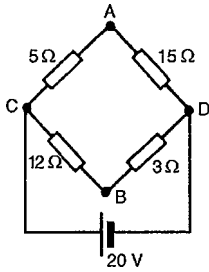

Figure 13.34
- (vii) To find the voltage across AB in Fig. 13.34: Since the 20 V supply is across the 5 Ω and 15 Ω resistors in series then, by voltage division, the voltage drop across AC,